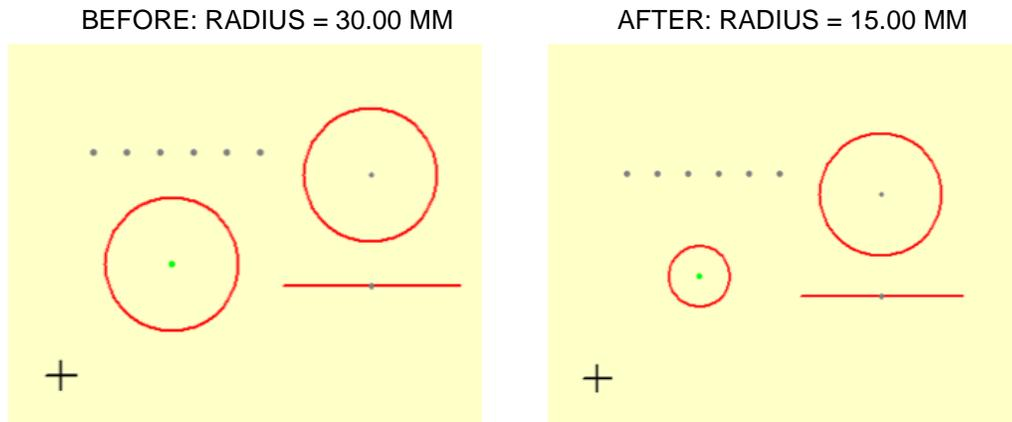

Figure 21-7: (Left) Original Circle and (Right) Edited Circle
5. Click **OK** to save the edited parameters to the Instruction List. Figure 21-7 shows the circles before and after editing.